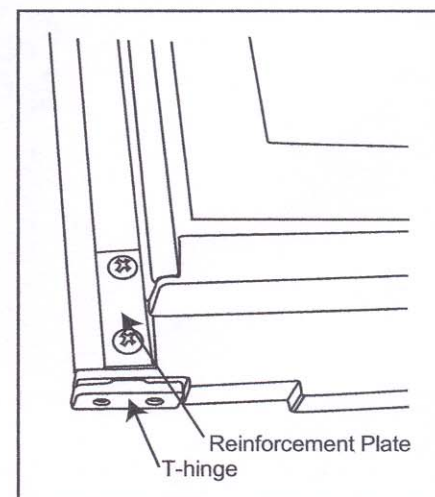

Figure 3. Reinforcement plate position (on both doors)
8. Install the metal reinforcement plate. See Figure 3.